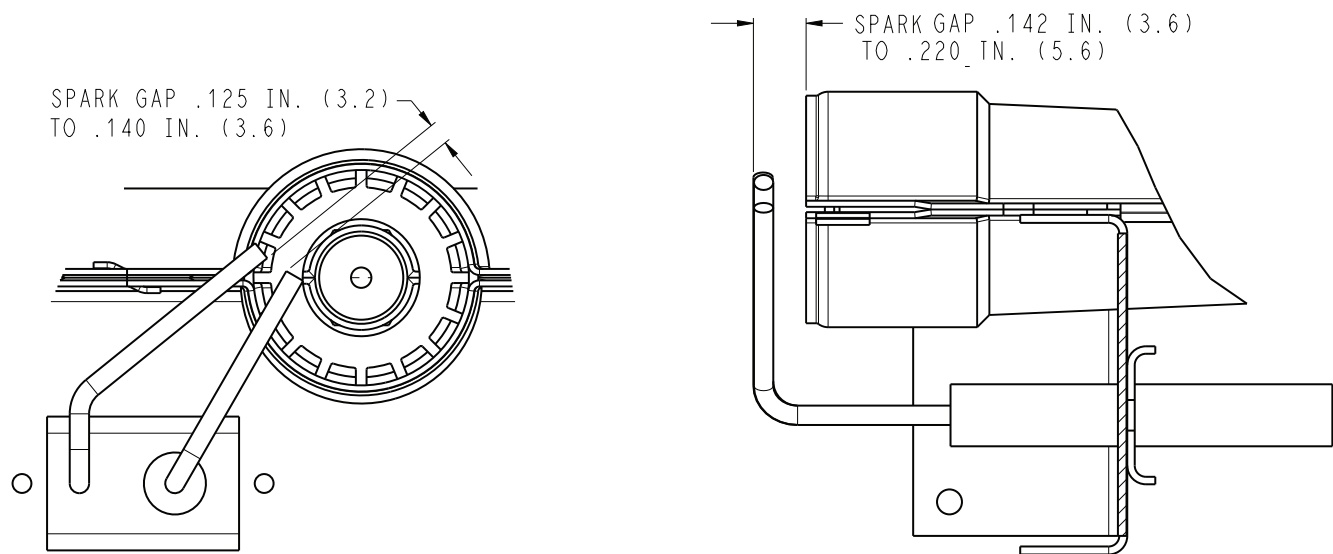

Fig. 56 — Spark Gap
11. Check spark gap and adjust as needed. See Fig. 56.